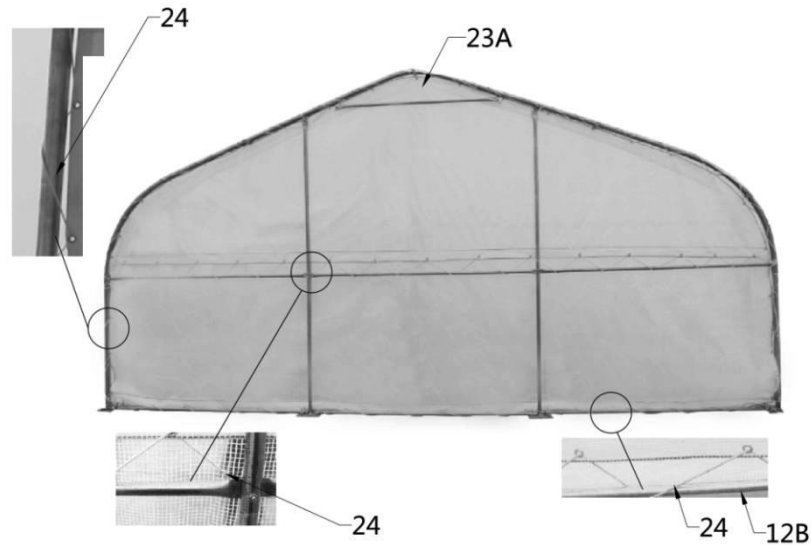

Figure 14
- Use rope (#24) to lift up the rear cover (#23A) from the center grommet and tie it firmly to the truss tube and spread toward both sides through each grommet along the tube (refer to figure 14).